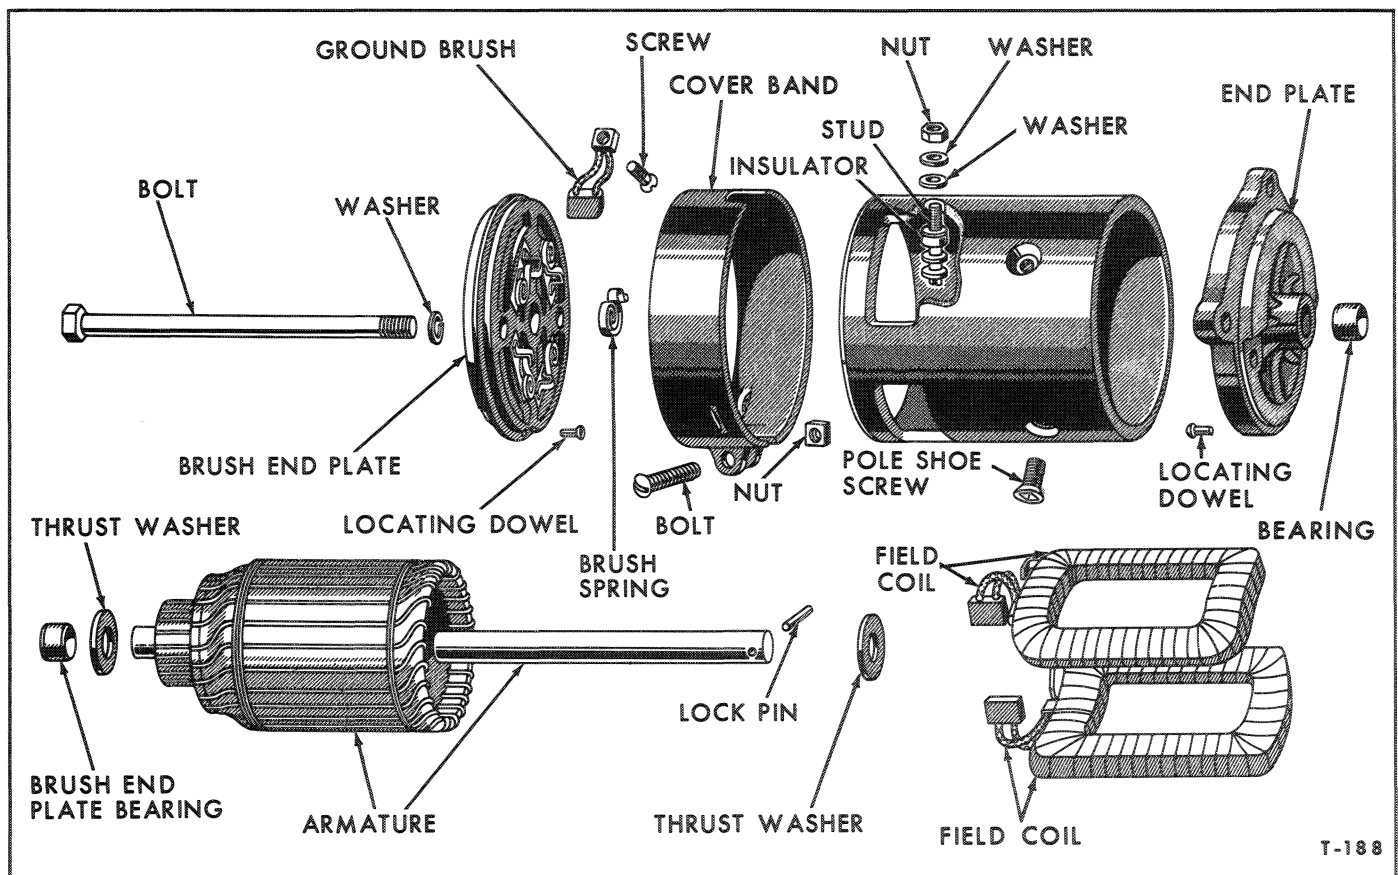

Figure 22—Starting Motor Disassembled
3. Remove the two through bolts from the rear end plate, then remove the front end plate and armature from the frame, Figure 22. Slip the front end plate off the armature shaft.